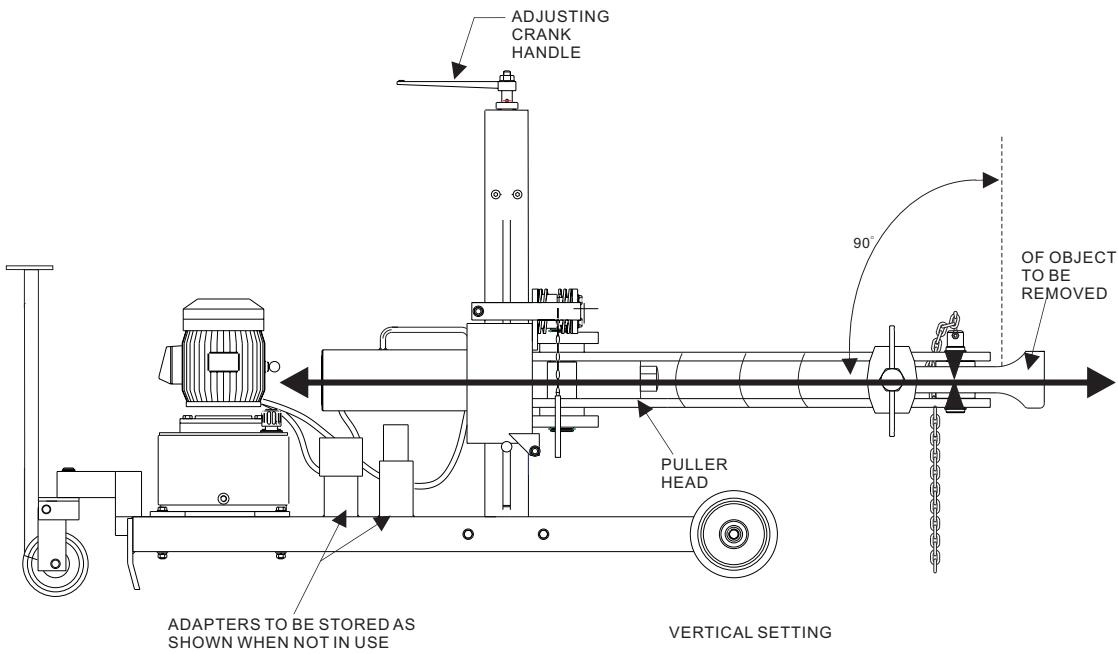

FIGURE 2
### VERTICAL SET-UP : See Figure 2
1. Adjust vertical set-up by using the crank handle shown in Figure 2. the centerline of the object being pulled must be on the same centerline as the puller head. Note: Because of spring loading, you may have to turn the crank handle several times before the head starts moving.